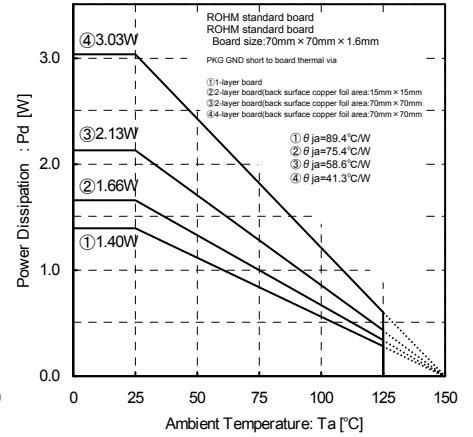

Fig.21
Power consumption Pc(W) calculation will be as below (for Fig.21④)